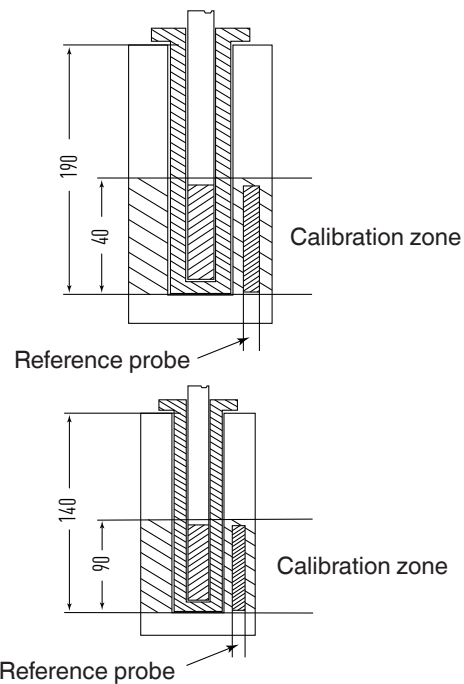

Figure 3
- Both temperature probes must be as close to each other as possible (see figure 3).